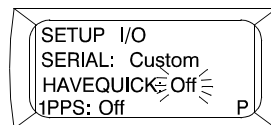

Figure 20. Havequick Off Display
5. Press the up arrow key (figure 1, item 2) or down arrow key (figure 1, item 3) until Off is flashing for HAVEQUICK (figure 20).